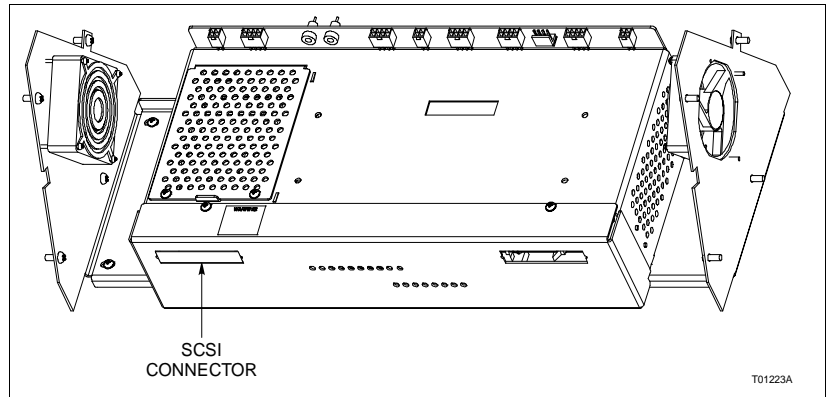

Figure PR40-2. SCSI Port
- 6. Remove the SCSI terminator from the SCSI connector on the NIU card cage. (Fig. PR40-2).